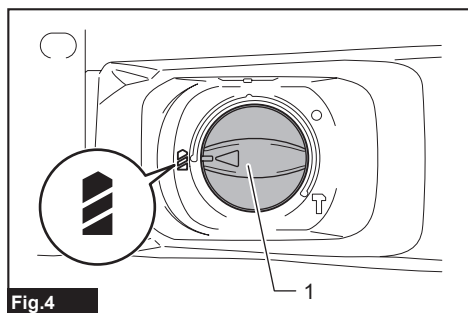

Fig.4
► **Fig.4:** 1. Action mode changing knob